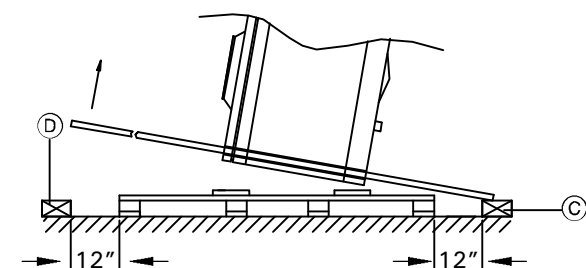

Fig. 3
4. Lift boiler using pipes until clear from skid. Remove skid from beneath boiler (Fig. 3).